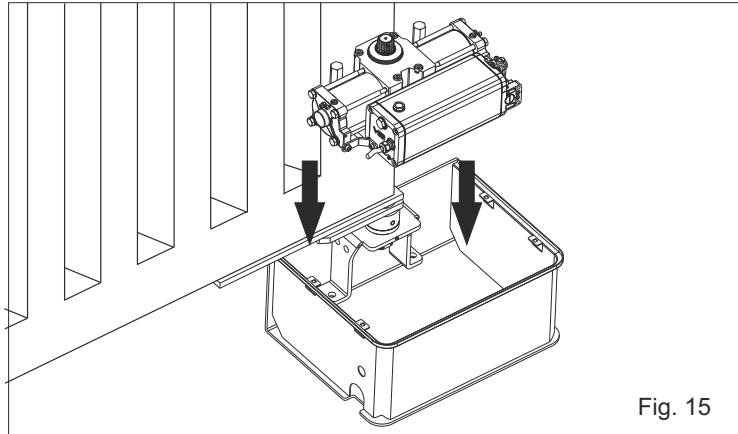
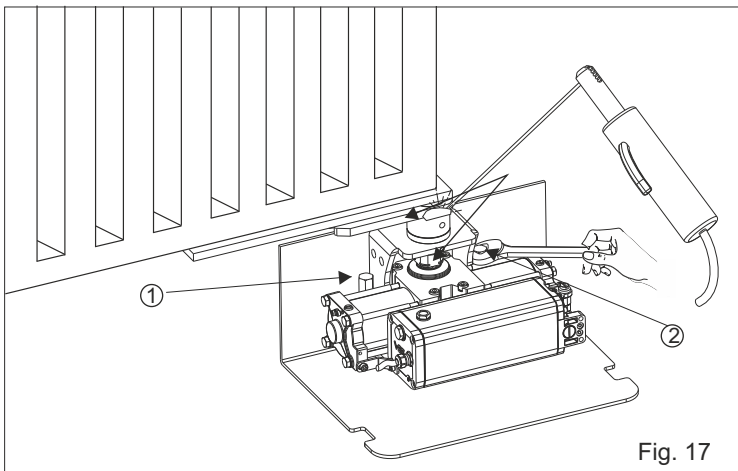

Fig. 15
Fig. 17
**4.1.** Insert manually the operator into the carrying box (Fig. 15) also insert the splined shaft of the operator into the splined bush of the box and fix the operator with the special screws as in Fig. 17